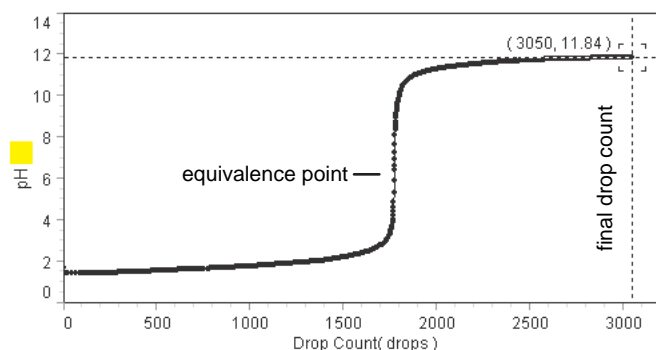

Figure 2: Graph of pH versus drop count
9. Observe the data appearing on the pH versus drop count graph (Figure 2). After the equivalence point is reached, wait until the pH curve flattens.